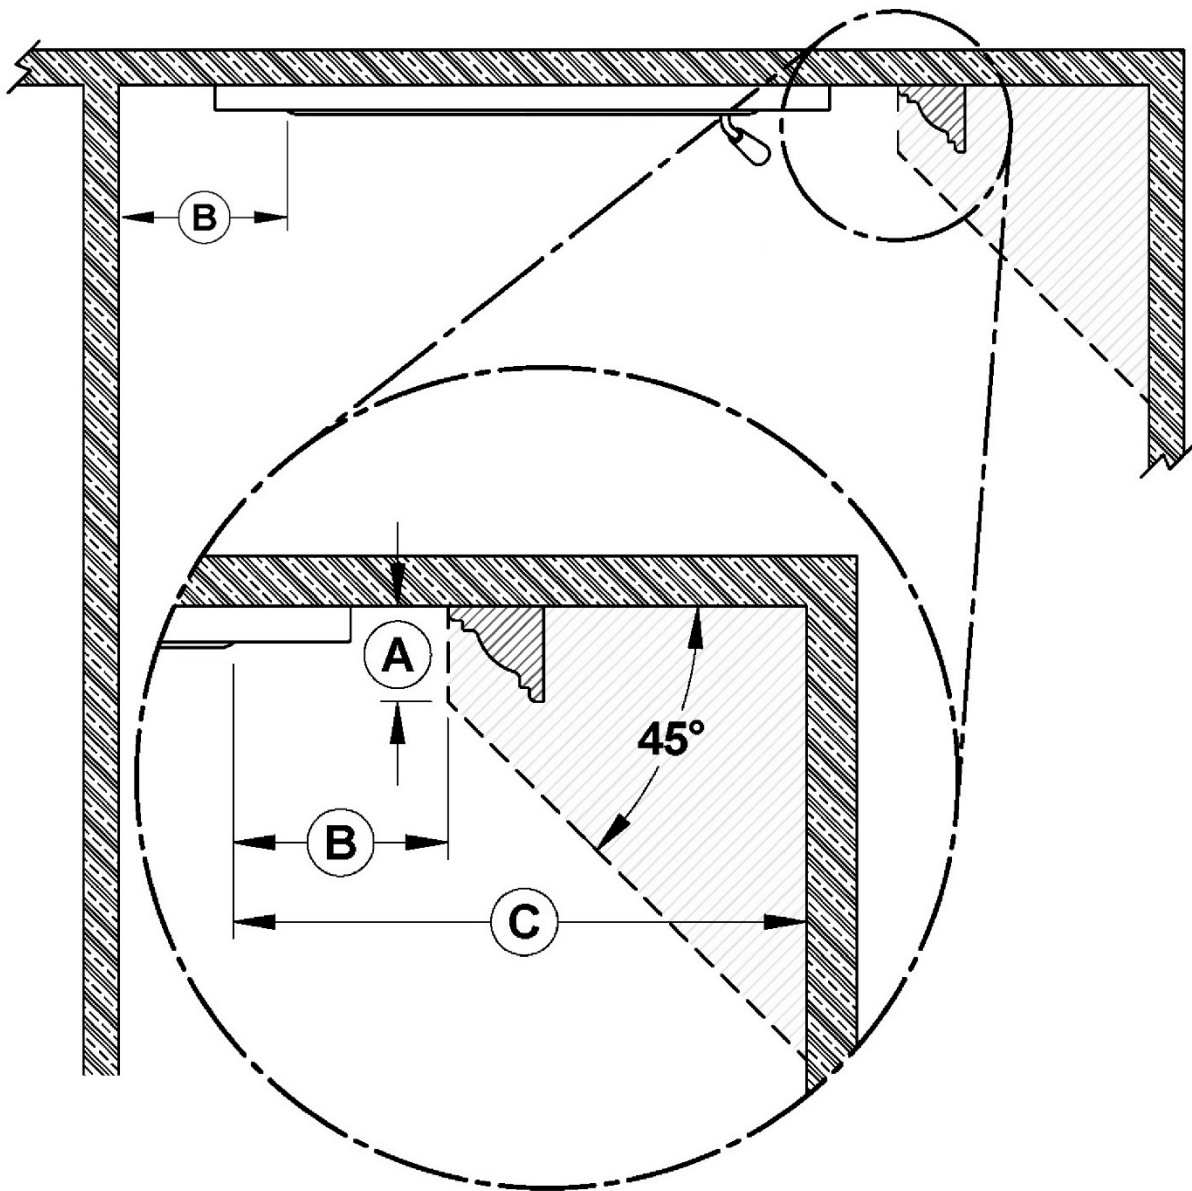

Figure 12 (b)
The construction of the framing, facing, and mantel must be in accordance with the standards and the following illustrations (Figures 12 to 18):
1. Materials directly in contact with the faceplate of the fireplace, especially the vertical and horizontal surround, must be non-combustible and have the minimal dimensions as shown on Figure 12.